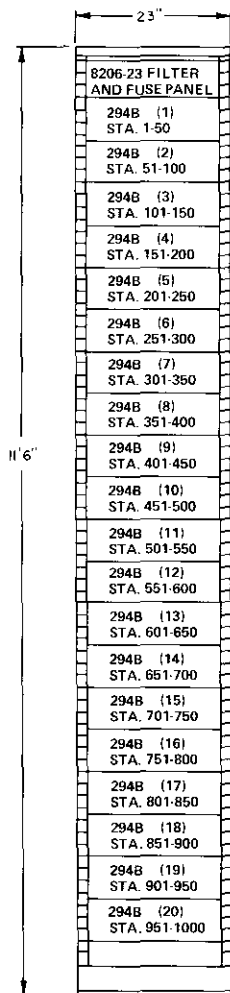

figure 8. Typical 1000-line
2.36 Larger 294 Systems are made up of additional 50-station increments (each of which makes up a basic 294 System) plus appropriate ringing generators and power supply. Figure 8 shows the equipment layout of a typical 1000-line 294 System with an 8206-23 Filter and Fuse Panel (minus the power supply, backup battery pack, recording device, and System Control Enclosure).